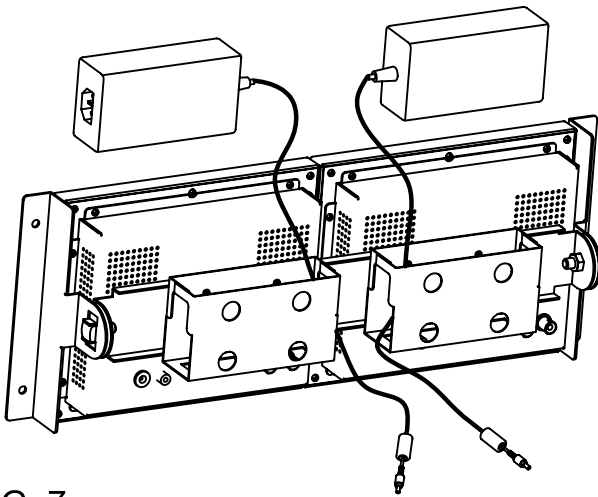
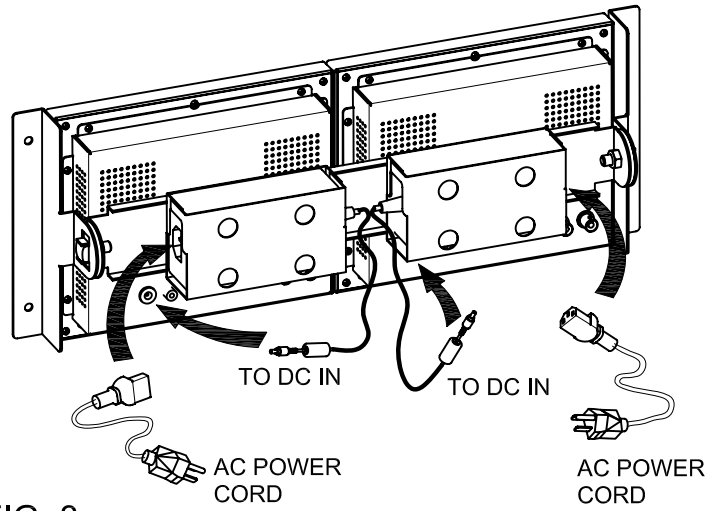

FIG. 7
FIG. 8
6. Put Power Adapter into Housing, note the direction, see Fig.7 and FIG. 8.